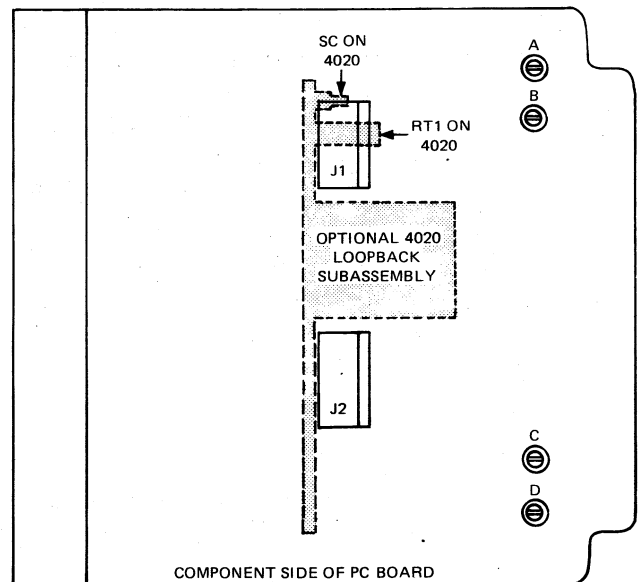

Figure 3. Option Location Drawing for the 402 Module and the 4020 Subassembly
7.01 The 402 may be arranged for dc operated loopback toward the facility by the addition of the 4020 Loopback Subassembly to its pc board. Mechanical support and electrical connection for the 4020 are provided by two plugs (P1 and P2) on the 4020 which mate with two jacks (J1 and J2, respectively) on the 402. Refer to Figure 3 for the option locations of the 4020 and the 402. When the 4020 is provided, screw-type option switches A through D (also shown in Figure 3) must be opened to permit proper loopback operation. When the 4020 is not provided, these option switches must be closed to complete the 4-wire voice path.
7.02 When the 4020 is provided and sealing current is used, screw-type option switch SC (shown in Figure 3) must be closed to complete the path. Opening SC prevents the flow of sealing current.
402 is suspected, replace it with a module known to be in operating condition for verification. If relay LB operates briefly and then releases as the loopback mode is initiated, remove and test resistance lamp RT1 (Figure 3). The filament resistance of RT1 should measure less than 100 ohms on a standard multimeter. If this measurement indicates an open circuit through the filament of RT1, replace RT1 with a similar lamp having a rating of 40mA at 28V. When ordering from Wescom, specify part No. 018-900105. To obtain technical assistance, contact the Wescom Technical Services Department by calling: